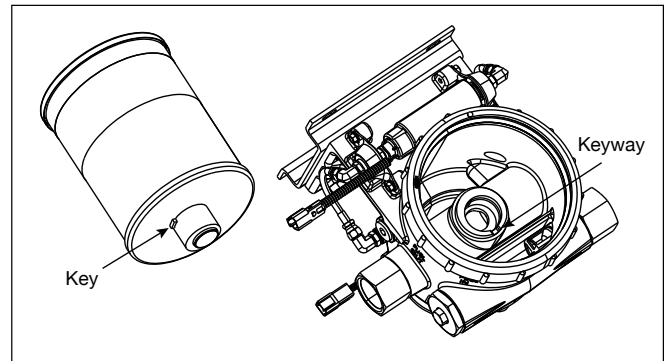

Figure 14 – Keyway
6. Install the new filter element. Figure 14 shows a key of the filter which fits into a keyway on the center boss. Position the filter element so the filter element key is lined up with the keyway on the center boss of the housing and press the filter element into the housing. Ensure the filter element is fully seated by firmly pushing on the end plate.